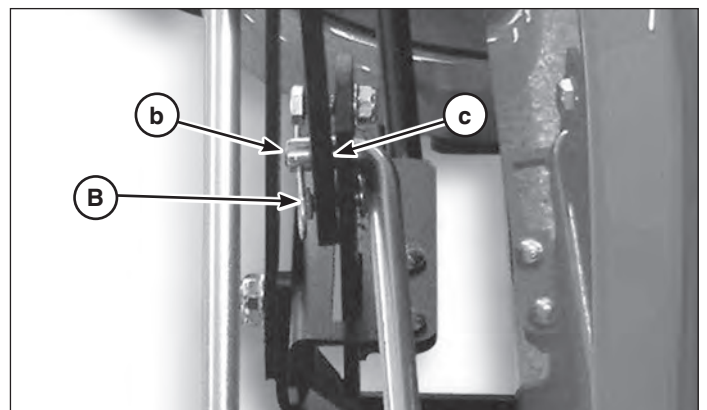

Figure 23
2. Insert hook end (**b**) of short lift bar assembly into handle/lift support assembly (**c**) as shown in Figure 23.